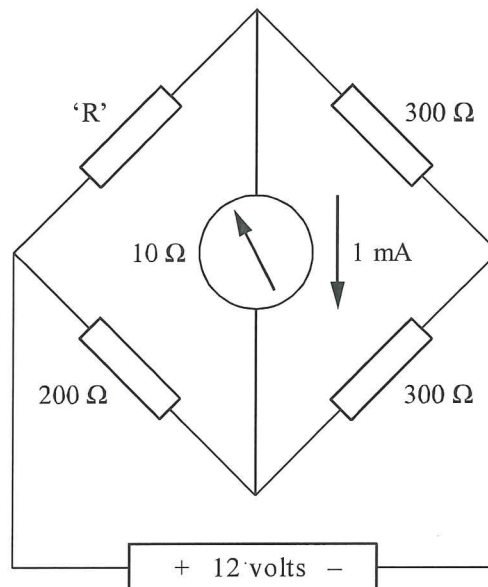

Fig Q1
1. The network shown in Fig Q1 is for sensing temperature.
- (a) Calculate the value of the sensing element 'R' so that the meter will read full scale deflection (FSD) of 1 mA in the direction shown. (8)
- (b) Calculate the value to which the 200 Ω resistor will have to be changed if the meter becomes unserviceable and has to be replaced by one of the same resistance but of 2 mA FSD and the meter is still to read full scale deflection. (8)